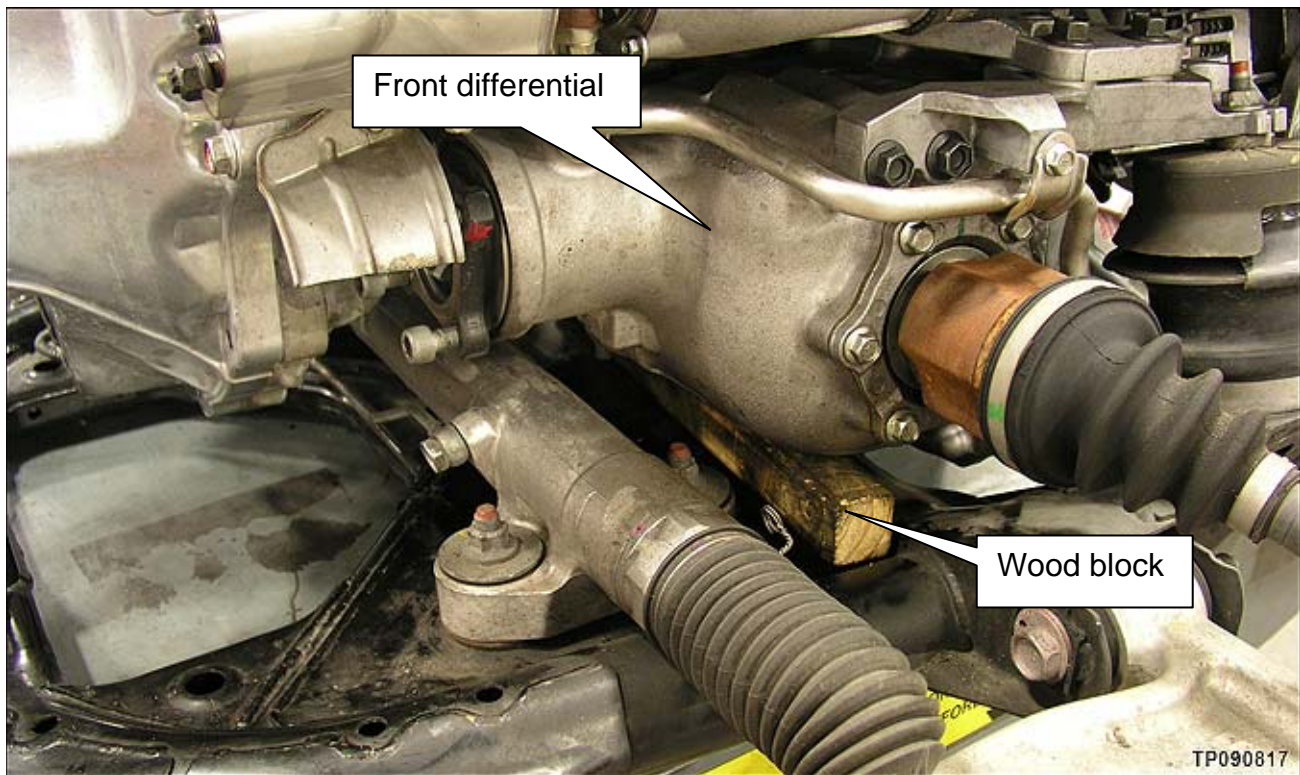

Figure 5
6. Place a wood block under the front differential as shown in Figure 5.